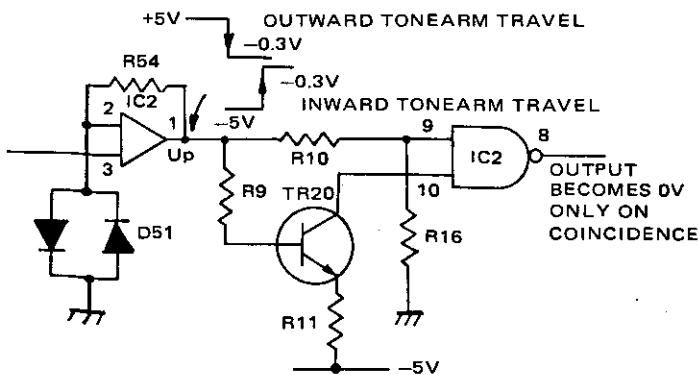

Fig. 3 Coincidence detector
When the tonearm comes at the ordered position (at preset locate position or at arm rest) by servo control, 0V (Actually set to -0.3V because of offset voltage) is obtained at Pin ① of IC2. If the tonearm is outside of the ordered position, the tonearm is driven toward inside by the start signal. At this time, voltage at Pin ① of IC2 increases toward 0V from large negative voltage. If the tonearm is inside of the ordered position, it functions vice-versa. The coincidence detector is so arranged that it provides 0V only when the output of Pin ① of IC2 crosses 0V point. Other times whether for positive or negative inputs, only positive output is derived. See Fig. 3.